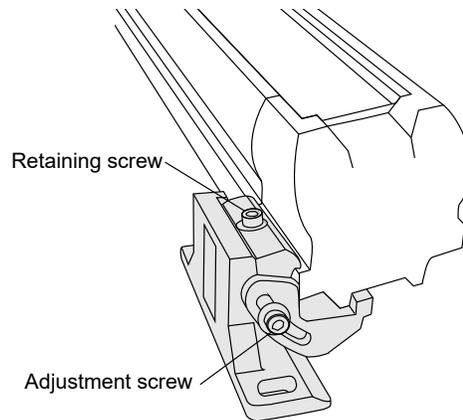

Figure 2-10. Fitting Adjustable Side Bracket to Shadow 9 Head
2. Fit the adjustable side bracket onto the Shadow 9 housing, as shown in *Figure 2-10*.